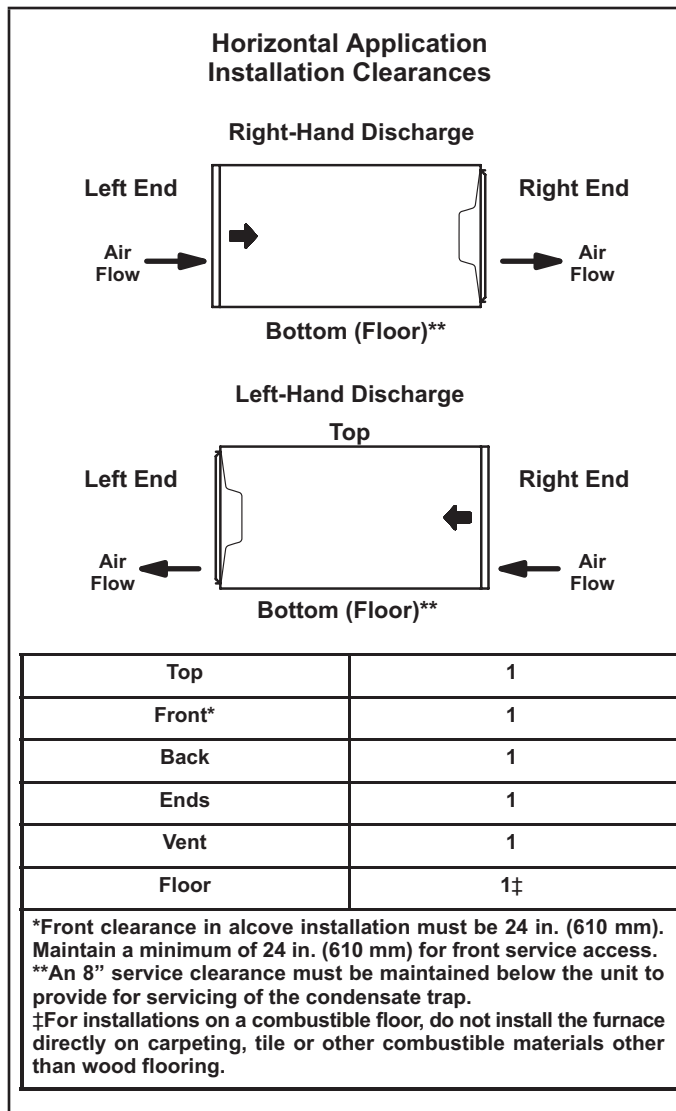

FIGURE 11
The SL297UHNVK furnace can be installed in horizontal applications with either right- or left-hand air discharge. Refer to FIGURE 11 for clearances in horizontal applications.
- 1 - Select location for unit keeping in mind service and other necessary clearances. See FIGURE 11.